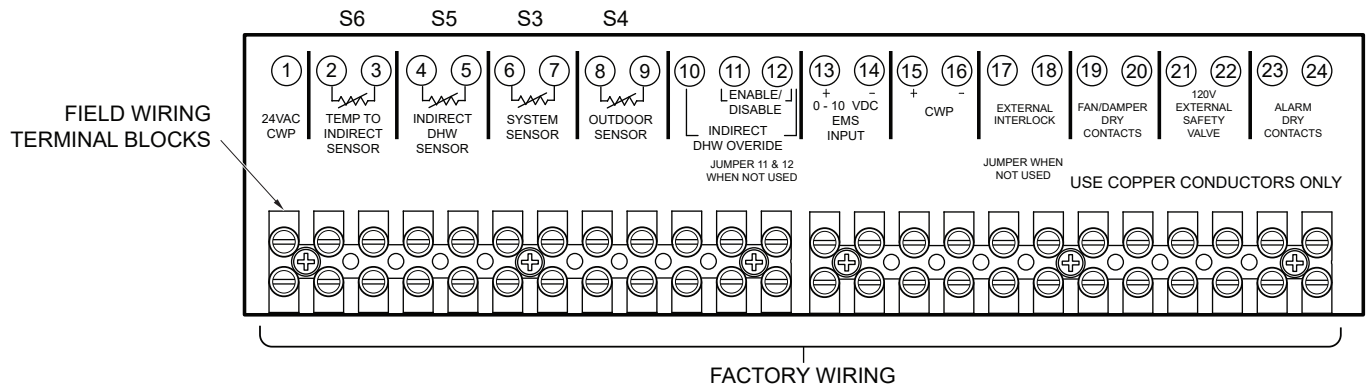

Figure 41. Low-Voltage Field Wiring
2. To enable this remote control function, set DIP switch 5 to the UP position on the PIM. DIP switch 5 Toggles between an EMS (UP) signal or a demand signal from the VERSA (DOWN). DIP switch 2 on the PIM toggles between a Direct Drive (UP) input and a Target Temperature (DOWN) setpoint.
4. Connect an Energy Management system or other auxiliary control signal to the terminals marked 0-10V (+/-) on the field wiring terminals. See **Figure 41**. Caution should be used to ensure that the +0-10V connection does not create a short to ground.
Connect the Enable/Disable (terminals 11, 12) wiring to the field wiring terminals as shown in **Figure 41** and in place of the factory installed jumper. Alternately, any dry contact closure (including a remote thermostat) across these terminals will enable the XVers boiler to run.
1. When using a System Sensor, connect the sensor wires to the terminals marked (6, 7) SYSTEM SENSOR. See **Figure 41**.
1. If using an Outdoor Air Sensor, connect the sensor wires to the terminals (8 & 9) marked OUTDOOR AIR SENSOR. See **Figure 41**.
Connect the indirect tank sensor to the terminals (4 & 5) marked INDIRECT DHW SENSOR. See **Figure 41**. Caution should be used to ensure neither of these terminals becomes connected to ground. When using an indirect DHW Sensor to control tank temperature, contact closure is required across the indirect override connections for proper operation.
The S6 sensor is used in mode 3 only. Connect the S6 sensor to terminals (2 & 3Z) marked TEMP TO INDIRECT SENSOR. See **Figure 41**. Caution should be used to ensure neither of these terminals becomes connected to ground.
3. Connect the Outdoor sensor (if used) to terminals 8 and 9 on the field wiring strip located on the Master boiler. See **Figure 41**.
4. Connect the Enable/Disable wiring to terminals 11 and 12 on the field wiring strip located on the Master boiler. This connection must be provided through dry contacts closure. See **Figure 41**. Applying 24VAC to these terminals will result in blowing the fuse on PIM.